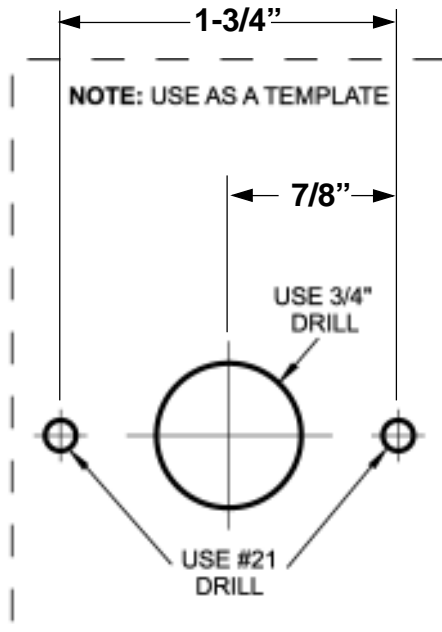
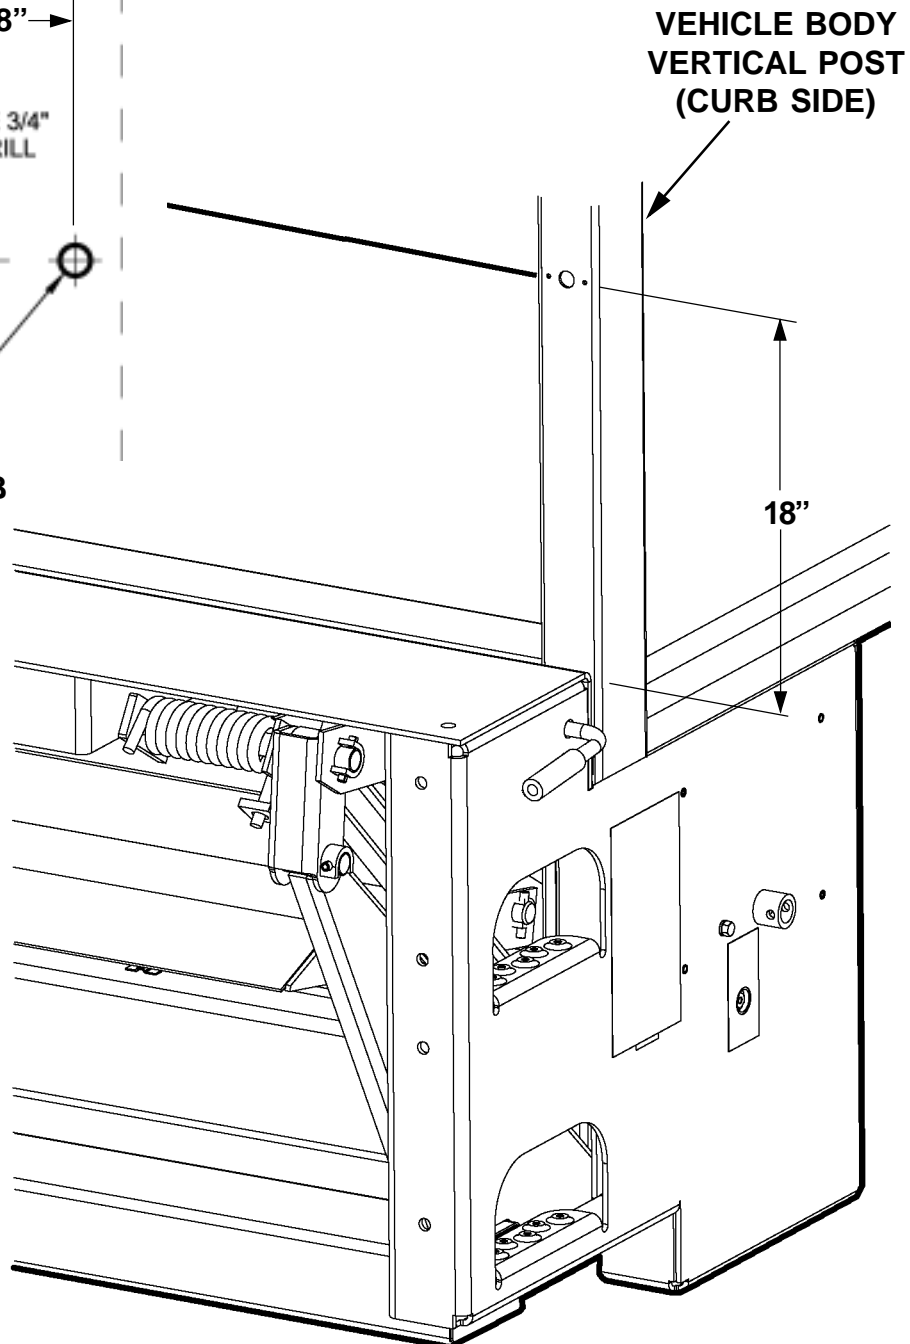

FIGURE 13B
FIGURE 13A
1. Drill one 3/4" hole and two #21-size holes in the vertical post on curb side of vehicle body as shown in **FIG. 13A**. Use template shown in **FIG. 13B**.